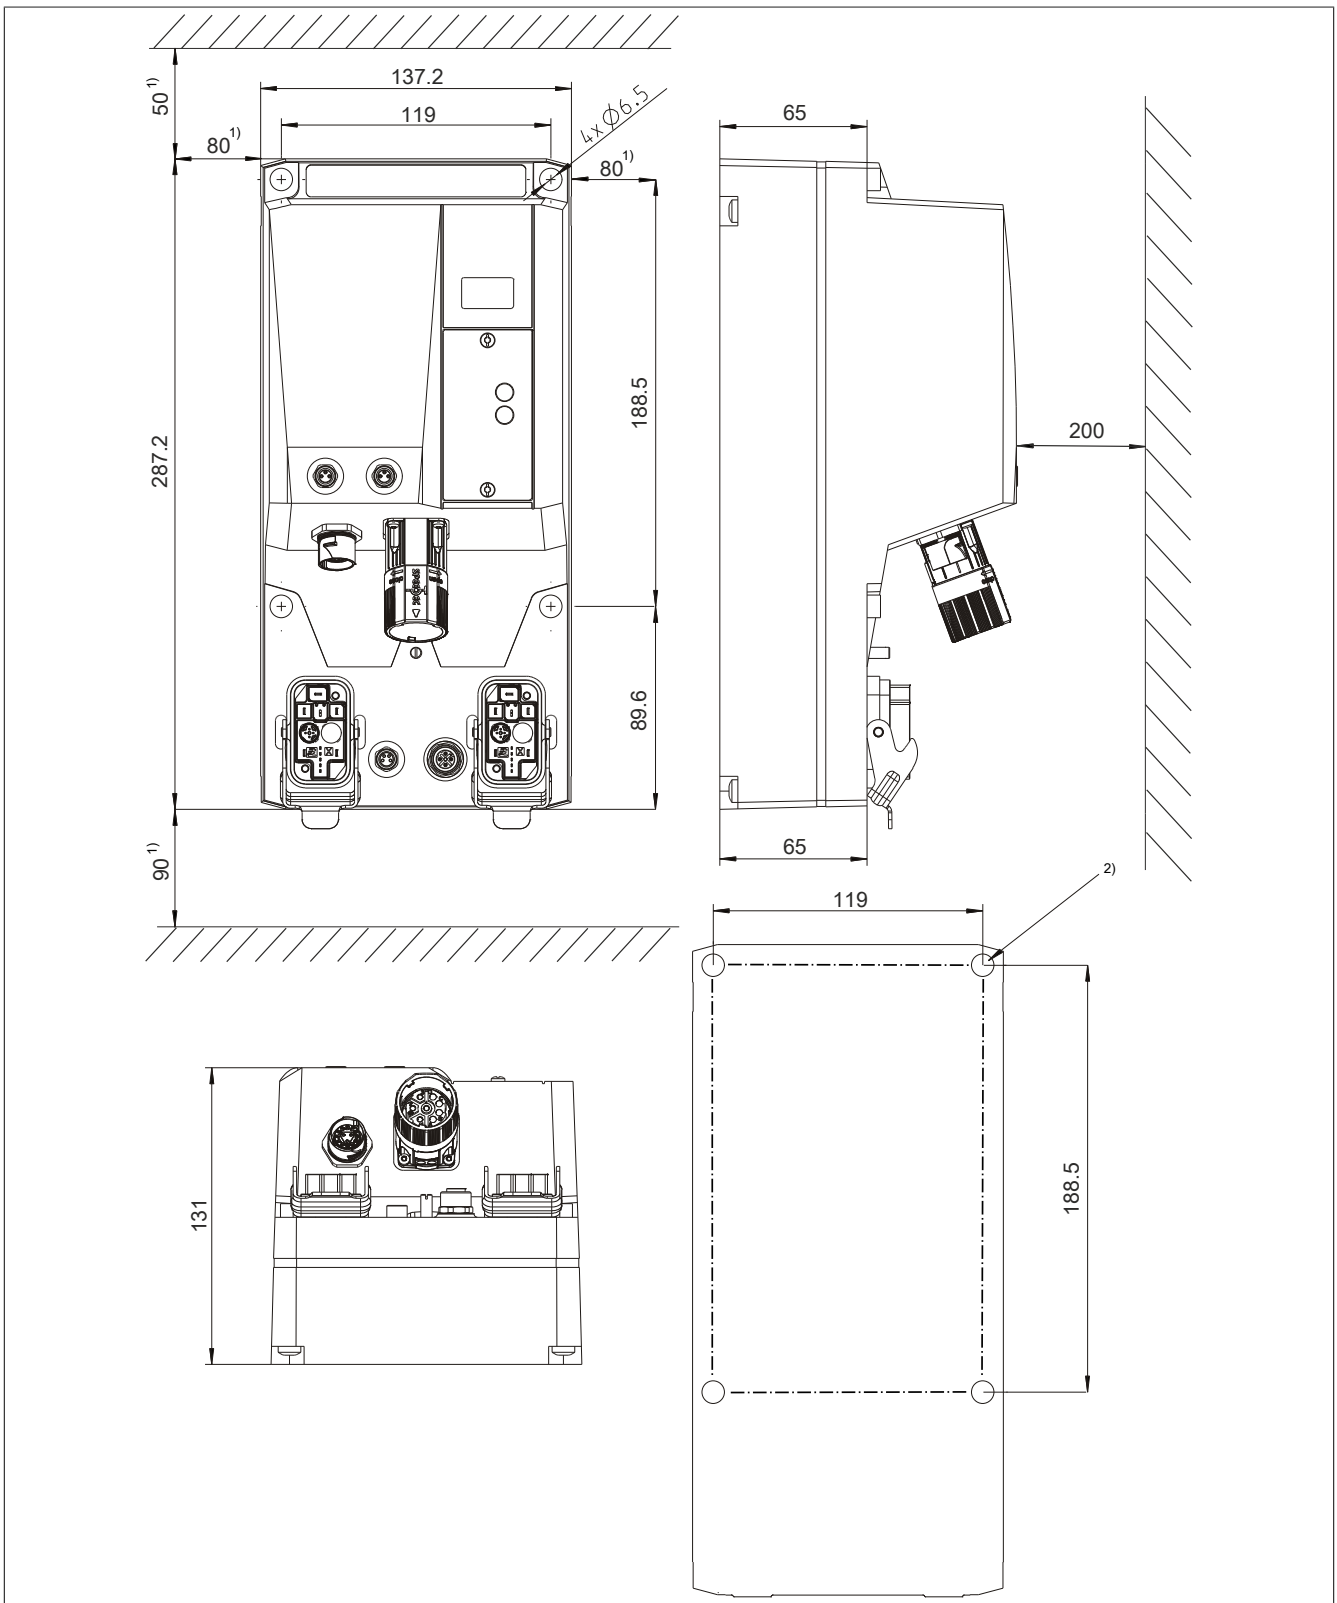

Figure 80: Dimension diagram and installation dimensions
- Create fixing holes in the mounting surface as shown in Section Fig. 80 "Dimension diagram and installation dimensions" on page 290.